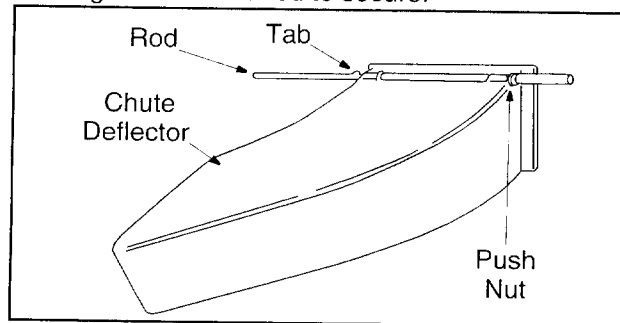

FIGURE 13
- Slide the rod into the upper edge of the chute deflector so the tab on the rod is toward the left side of the chute deflector. When assembled correctly, the rod will extend further to the left side than the right side. See Figure 13.